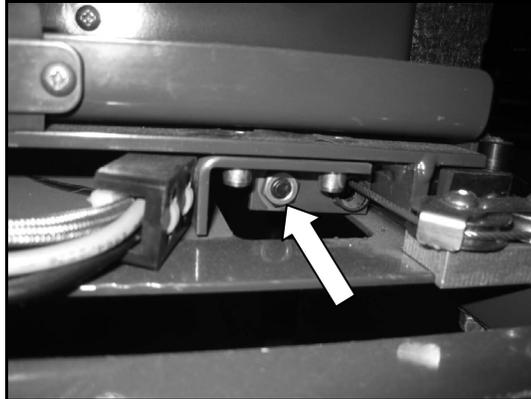

FIGURE 3-21
12. Refer to **Figure 3-21**. Align threaded end of gas spring into bracket hole then fasten to baseplate with nut.